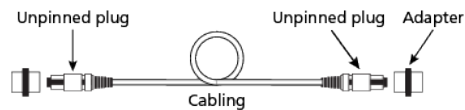

Figure 1. Unpinned plug on both ends (permanent link)
- unpinned plugs on both ends of the cabling (see Figure 1),